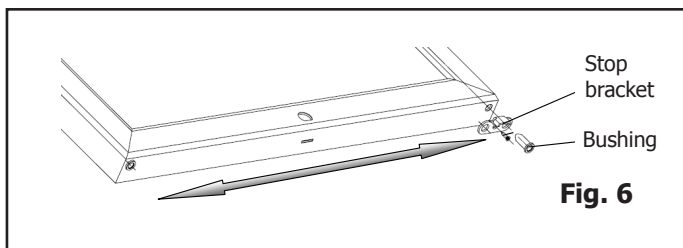

Fig. 6
6. On bottom edge of door, transfer door stop bracket and bushing to holes on opposite side. See Fig. 6.